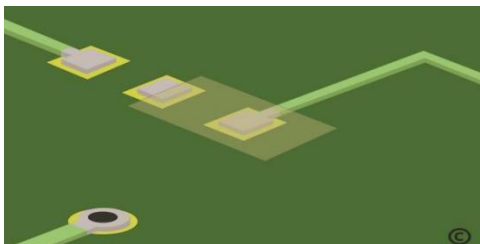

Fig. 8.4
6. Apply additional epoxy to the surface of the lifted circuit and to all sides as needed for additional strength. Tape the repaired pad/trace into position while curing (Fig 8.4)